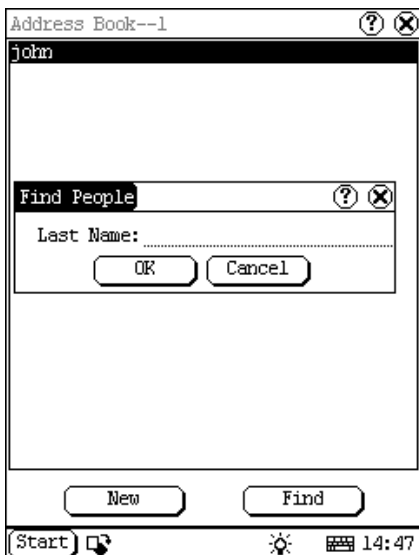

Figure 5-21
- 1) In the Address Book interface, click [Find] button to pop-up the Find People interface. See Figure 5-21.